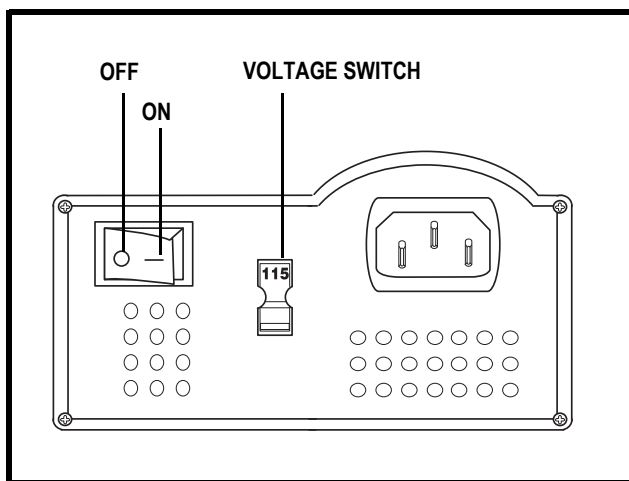

Figure 10. Charger On/Off and Voltage Switches
The off-board charger supplied with your scooter is equipped with a 115/230 voltage switch. Confirm that this switch is in the proper position for your locality. If you are not sure what the voltage is in your country, contact your local electricity provider before inserting the charger power cord plug into your electrical outlet. If the setting is incorrect, the charger will not function properly. Slide the voltage switch to the appropriate position. See figure 10.
4. Make sure that the charger's on/off switch is in the OFF position. See figure 10.